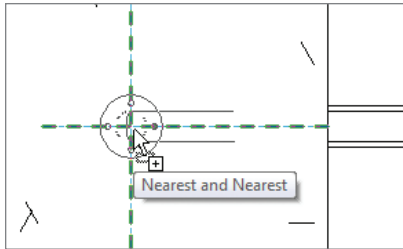

FIGURE 10.15 Inserting the ADA - Pipe family to the intersection
11. Press the spacebar once to rotate the family into place, so it is oriented as shown in Figure 10.15.
12. Place the family at the intersection of the two reference planes, as shown in Figure 10.15, then press Esc twice.